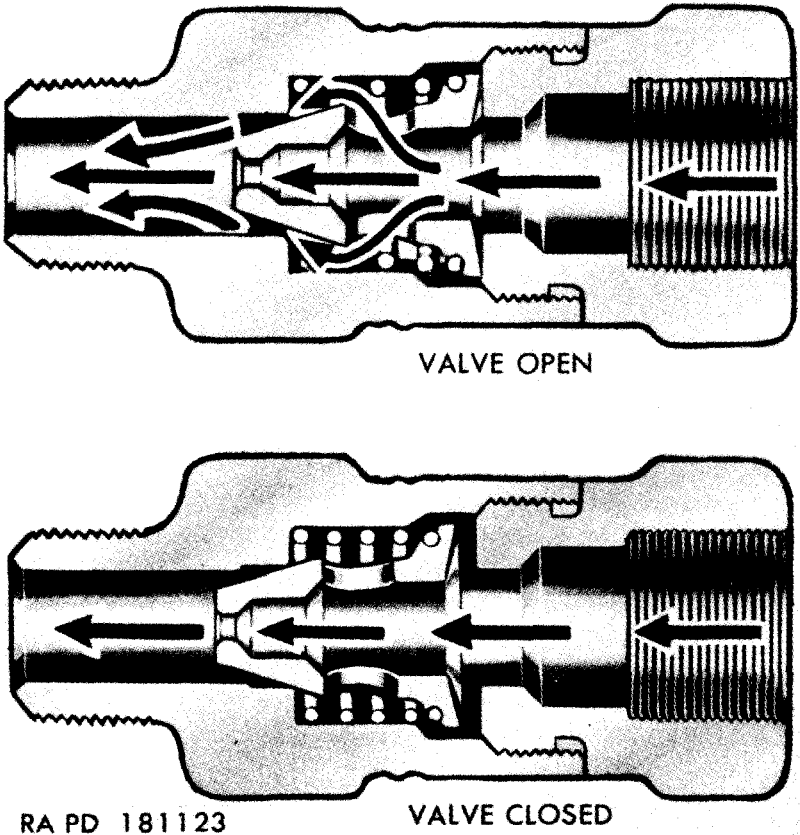

Figure 112. Sectional view of ventilating system metering valve.
b. When the vehicle is in over-land service, the two vent control valves, (L and BB), are open and play no part in the ventilating system. The metering valve (E), however, operates to automatically control or limit the amount of vacuum developed within the engine ventilating system to a predetermined value regardless of the engine speed, as follows:
- (1) At high engine speeds, the air in the engine ventilating system is moving at a relatively high velocity, a condition which causes the metering valve (fig. 112) to be pulled forward against the seat in the metering valve body. As long as high engine speed and high air velocity is maintained, the valve